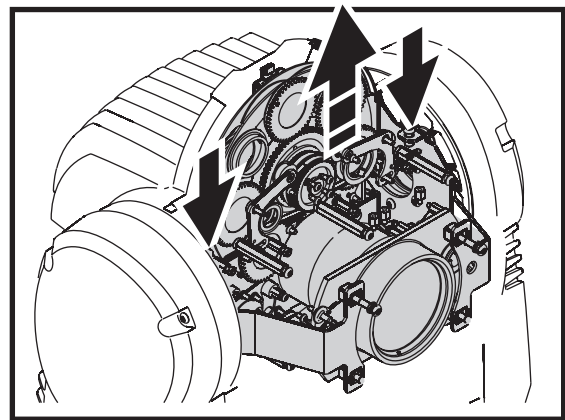

Figure 19: Removing the effects module
5. See Figure 19. Remove the two Torx 20 screws (arrowed) from the sides of the effects module and lift the module out of the fixture.